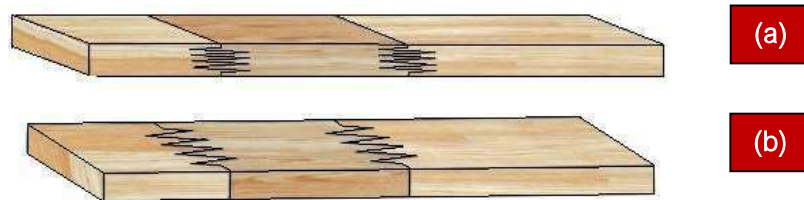

Figure 140: Red Stag EWP elements; a) Horizontal FJ, b) Vertical FJ.
Red Stag EWP lamella are Finger Jointed (FJ) across the face of each board with a 7 mm finger that is visible. The finger joints are bonded using a relatively clear Polyurethane Reactive adhesive (PUR). Typically, FJ are no closer than 0.8 m apart, and generally separated between 0.8 – 4.8 m. Examples of vertical and horizontal finger joints are demonstrated in *Figure 140*. Red Stag is reviewing the FJ and grading solutions that may